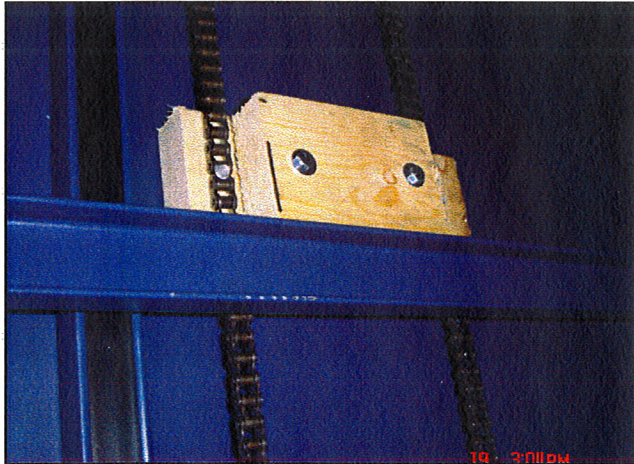

Figure 18
11. Uncoil lift chains which are in the top section of the lift. The chains are temporarily held from rolling over sprockets by bolts through the chain and into a wood block on top of the lift. After you connect chains to top of carriage and to loose ends of chain behind carriage, you can remove blocks from chains. See Figures 18, 19, 20 and 21.
If you need to lift carriage up, you must move wood block up higher on chain. See Figure 18. Be careful not to lift carriage too much, or you will stretch springs under carriage.